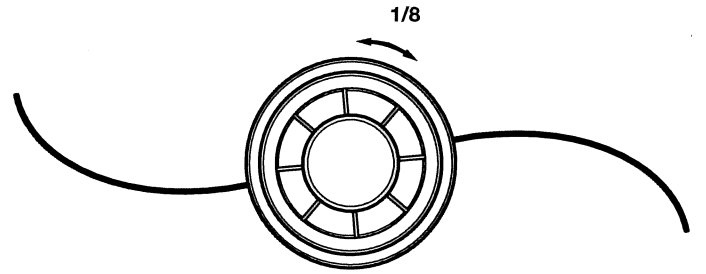

Fig. 5
- IF...** the lower shaft housing does not enter the coupler completely and the holes do not align, remove the lower shaft housing, rotate the cutting head slightly (1/8th turn) and repeat step 4 (Fig. 5).